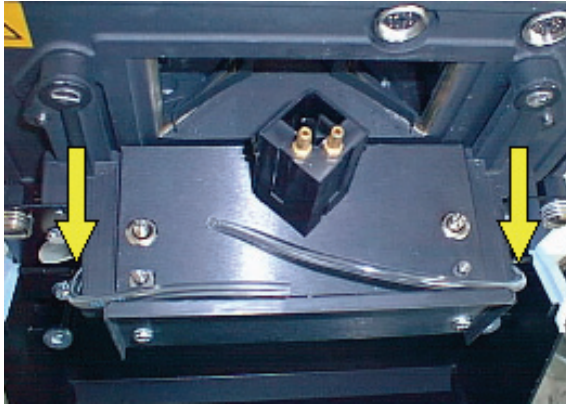

Figure 19 Routing the tubing
2. The tubing is then brought around the outside of the accessory bracket, as shown in Figure 19.